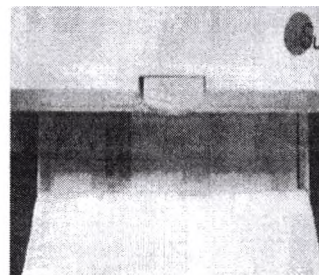

Fig.5-2
- 3) Unfold the top page of a loading paper, place the “SUNRAY CO., LTD.” marking to the left, and then slide the paper into the paper drawer. Pull the top page of the loading paper out of the drawer, as shown on Fig.5-2.